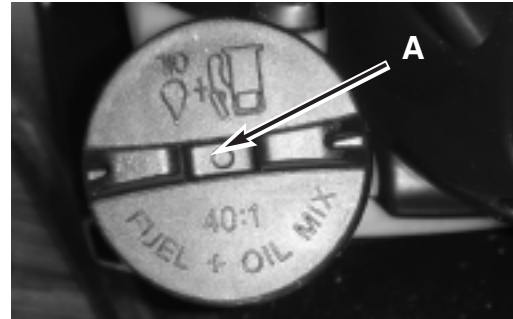

Fig. 22
**NOTE:** Keep vent (A) on fuel cap clean of debris (Figure 22).